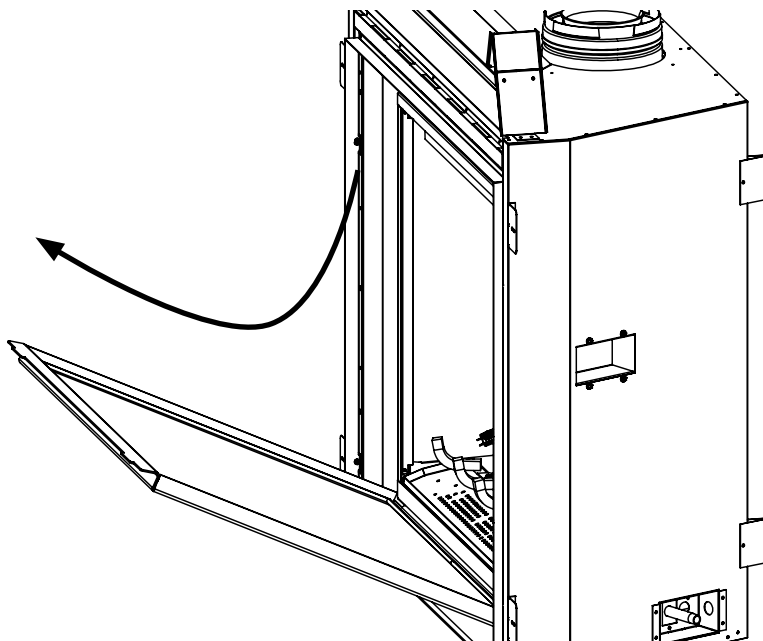

Figure 18: Glass Door - Door Removal
2. Lay the door forward until it is almost parallel with the floor and remove it from the bottom retainer (figure 18).